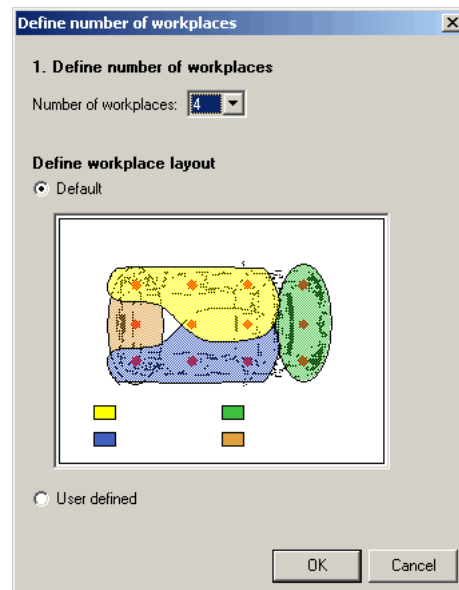

Figure 103: Selecting Standard Default Setting of Balancing Process
- 2) Select the number of workplaces. Workplaces are highlighted. *Please refer to the Figure 103.*